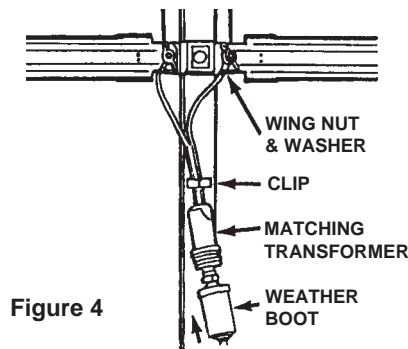

Figure 4
STEP 8. Attach matching transformer to download stud rivets with washers and wing nuts supplied from hardware bag. See Figure 4.
STEP 9. Screw coax download onto matching transformer, making sure to slide weather boot over connection. See Figure 4.
STEP 10. Secure matching transformer to retaining clip. See Figure 4.